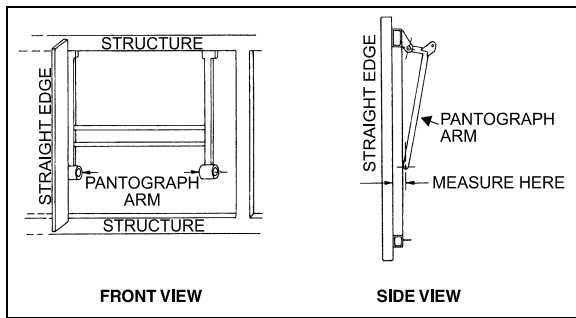
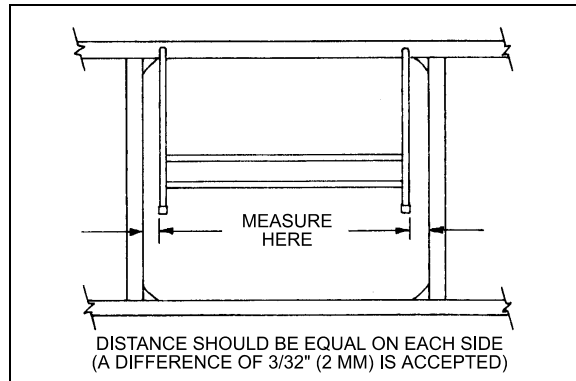

FIGURE 56: PANTOGRAPH DOOR ADJUSTMENT 18062
FIGURE 57: PANTOGRAPH DOOR ADJUSTMENT 18063
Measure distance between a pantograph arm end and a straight edge resting on structure. Repeat procedure for the other arm. The distance on each side should be equal. If not, bend appropriate arm until desired measure is obtained (Figure 56 & Figure 57).
5. When the door is straight, remove the 2x4's and check door operation and fit. A difference of $3/32$ " (2mm) between both sides is accepted (Figure 57).